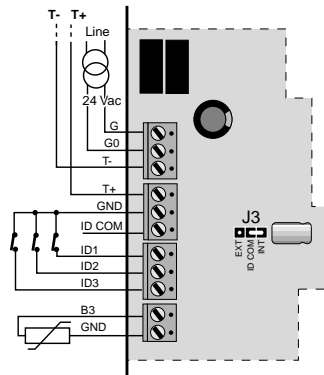
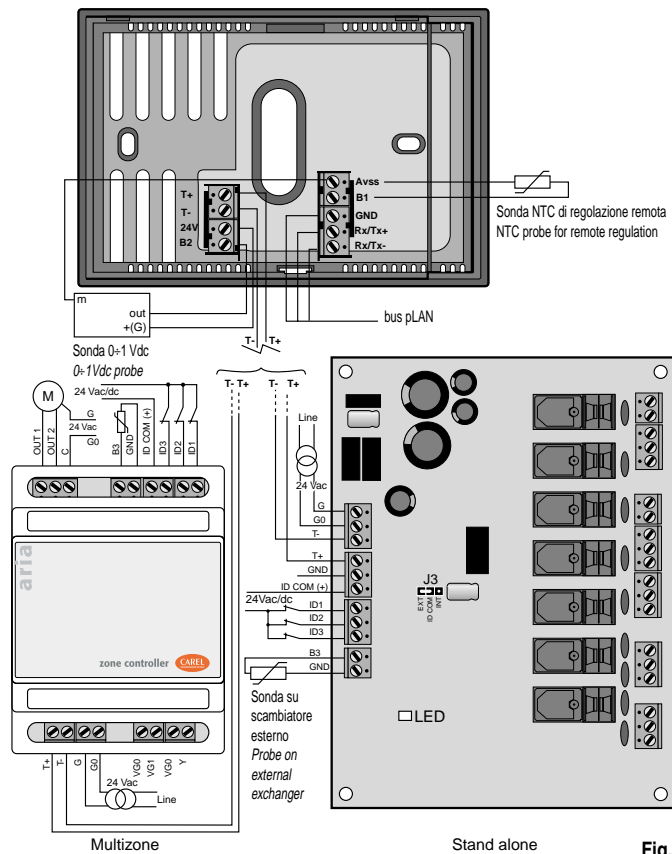

Fig. 3
Fig. 4
- nel collegamento con la scheda di potenza si deve, poi, porre particolare attenzione al rispetto delle polarità, vedi Fig. 4 “schema di collegamento”;
- when making the connection to the power board, special attention must be paid to the polarity, see Fig. 4 “Application wiring diagram”;
- don't touch the components mounted on the card with bare hands (handle it using the edges only). Jumper J3, which is located in the card, sets how to supply the three 24Vav/Vdc digital inputs (J3 between 1-2: dig. inputs supplied by the card, see figure 3; J3 between 2-3: digital inputs to be supplied externally with 24 Vac/Vdc - see fig. 4).